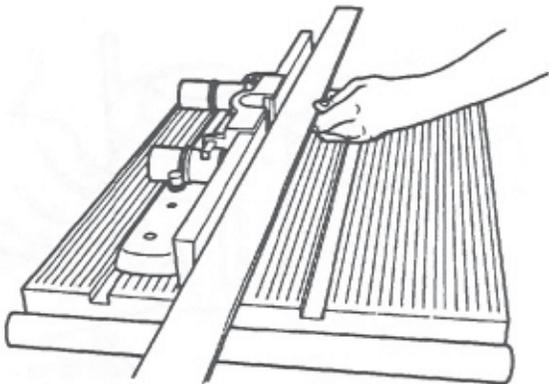

Figure D-57
2. Use a straightedge to set the fence boards parallel with each other, as shown in Figure D-57.